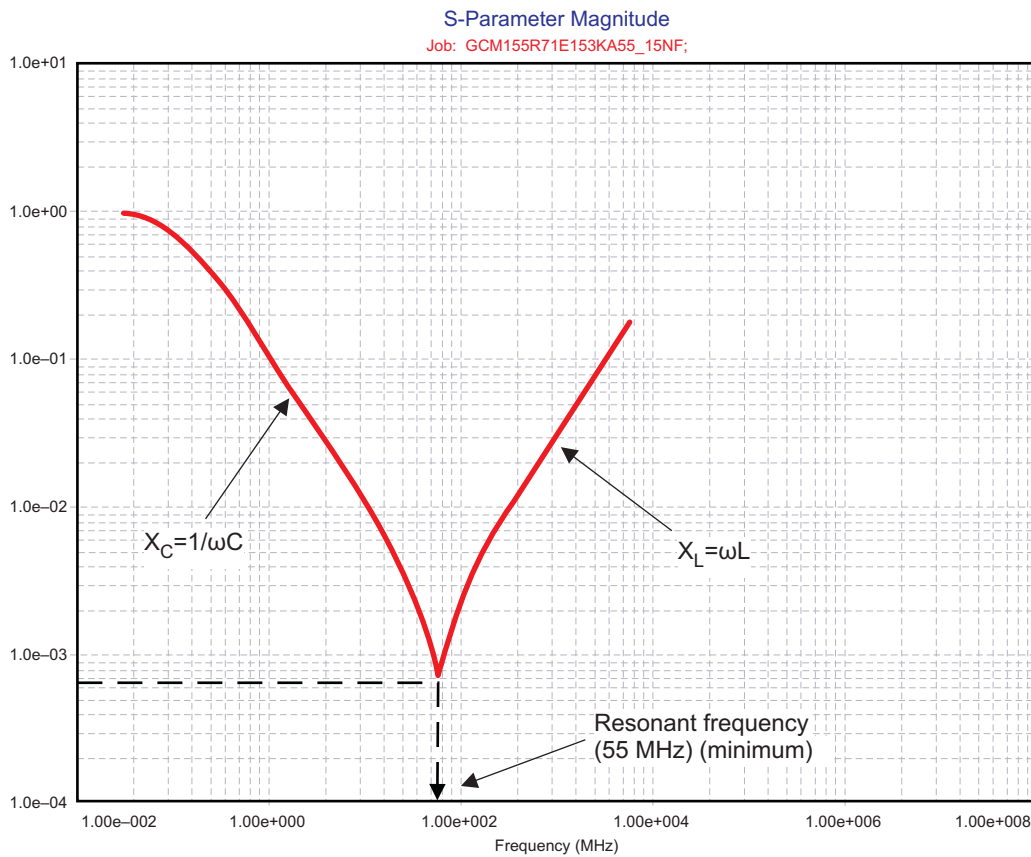

Figure 7-12. Typical Impedance Profile of a Capacitor
Figure 7-12 shows the resonant frequency response of a typical capacitor with self-resonant frequency of 55 MHz. The impedance of the capacitor is a combination of its series resistance, reactive capacitance, and inductance as shown in Figure 7-11.
Keep radio frequency (RF) sensitive circuitry (like GPS receivers, GSM/WCDMA, *Bluetooth*/WLAN transceivers, frequency modulation (FM) radio, ...) away from high-speed ICs (such as, the OMAP device, power and audio managers, chargers, memories) and ideally on the opposite side of the PCB. For improved protection it is recommended to place these emission sources in a shield can. If the shield can have a removable lid (two-piece shield), ensure there is low contact impedance between the fence and the lid. Leave some space between the lid and the components under it to limit the high-frequency currents induced in the lid. Limit the shield size to put any potential shield resonances above the frequencies of interest; see Figure 7-12, *Typical Impedance Profile of a Capacitor*.